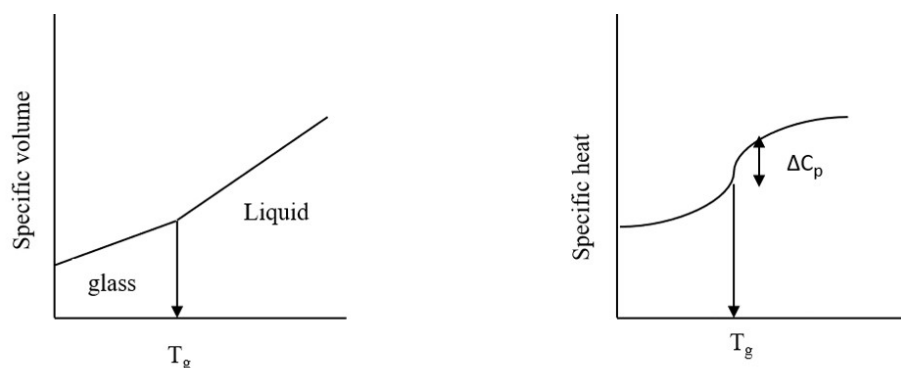

Figure 4.4a. Figure 4.4b.
I. Characterisation of polymeric materials: The 'glass transition temperature' (T_g) is an important parameter for many polymeric, ceramics and glasses. On cooling the material from the liquid state, there is (at the T_g) a change from the liquid state to amorphous state or glassy state. At this point there is discontinuity in the rate of change of the volume. There is also a change in the specific heat which allows study by DSC. Both these effects are illustrated in the figure 4.4a and 4.4b respectively.